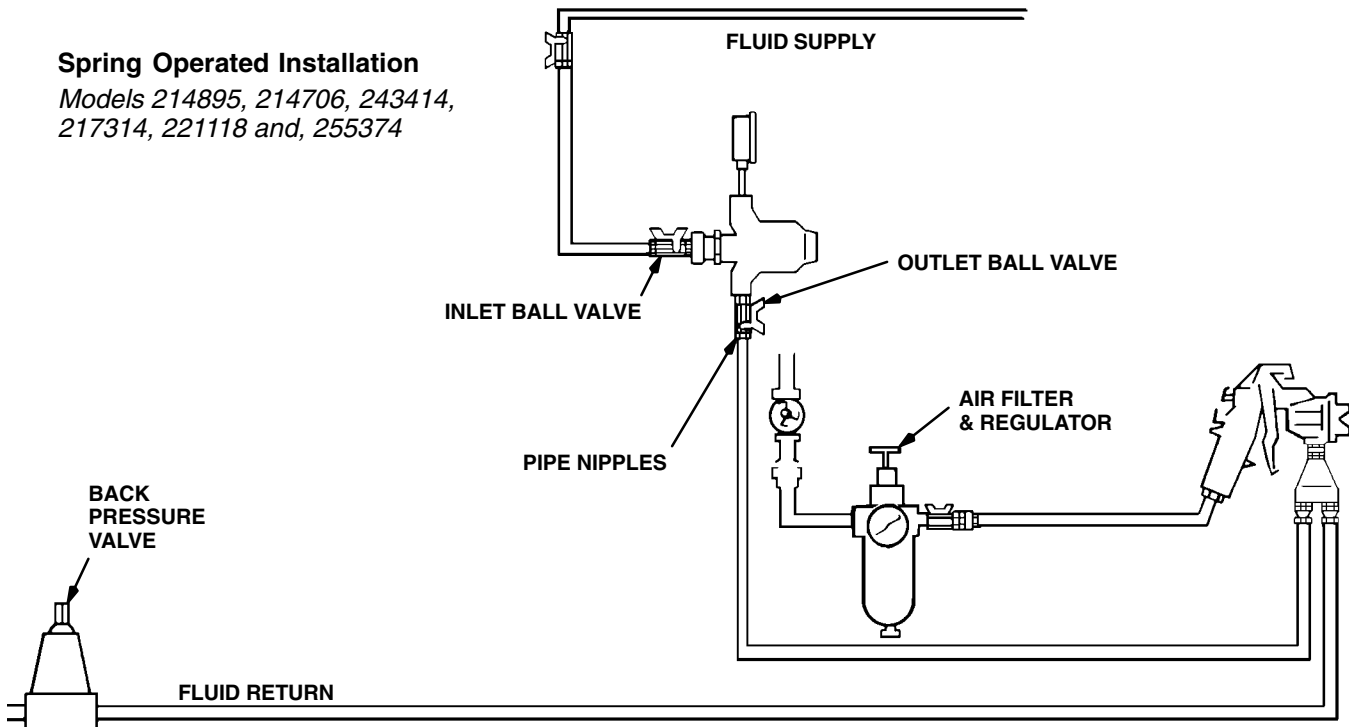

Fig. 1
1. Remove the temporary plumbing and install one regulator for each spray gun. See the **Dimensional Drawing** on page 19 for regulator dimensions. Mount the regulator in a vertical position, as shown in Figs. 1 and 2, for the best flow and minimum pigment settling. The gauge, if used, must be mounted vertically. If the regulator is mounted horizontally, an elbow must be used so the gauge will be vertical.
2. Close the fluid regulator's inlet ball valve. Refer to Figs. 1 and 2.
2. Start the pump and open the fluid regulator's inlet ball valve to admit fluid to the regulator. See Fig. 1.